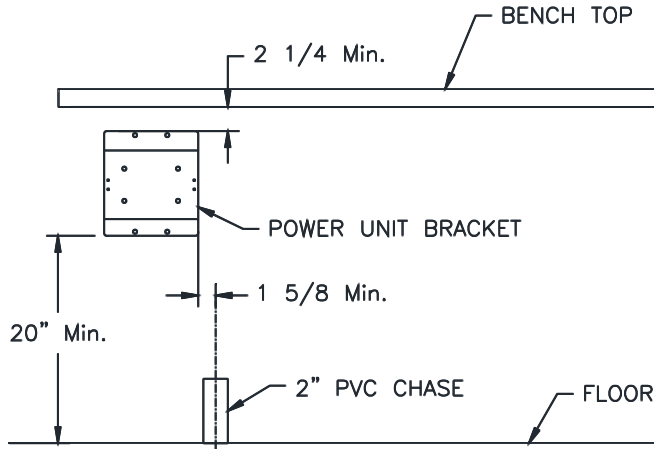

Fig 9 – Power Unit Bracket Location
- Mount the Power Unit Bracket on the wall under the workbench using **Figure 9** as a guide for the minimum clearance dimensions. Use anchors (not Included) suited for the wall material. (Power Unit Weight: 63lbs)